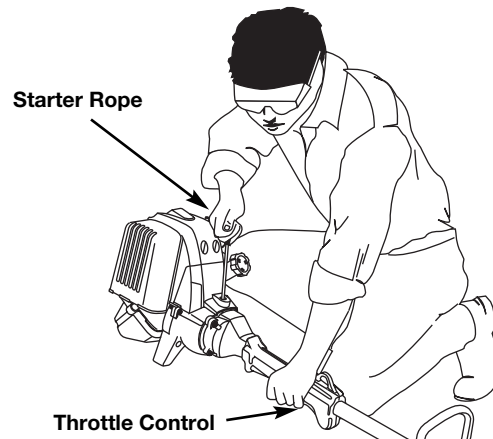

Fig. 13
WARNING: Avoid accidental starting. Make sure you are in the starting position when pulling the starter rope (Fig. 13). To avoid serious injury, the operator and unit must be in a stable position while starting.
6. Crouch in the starting position (Fig. 13), squeeze the throttle control, and pull the starter rope briskly 5 times.